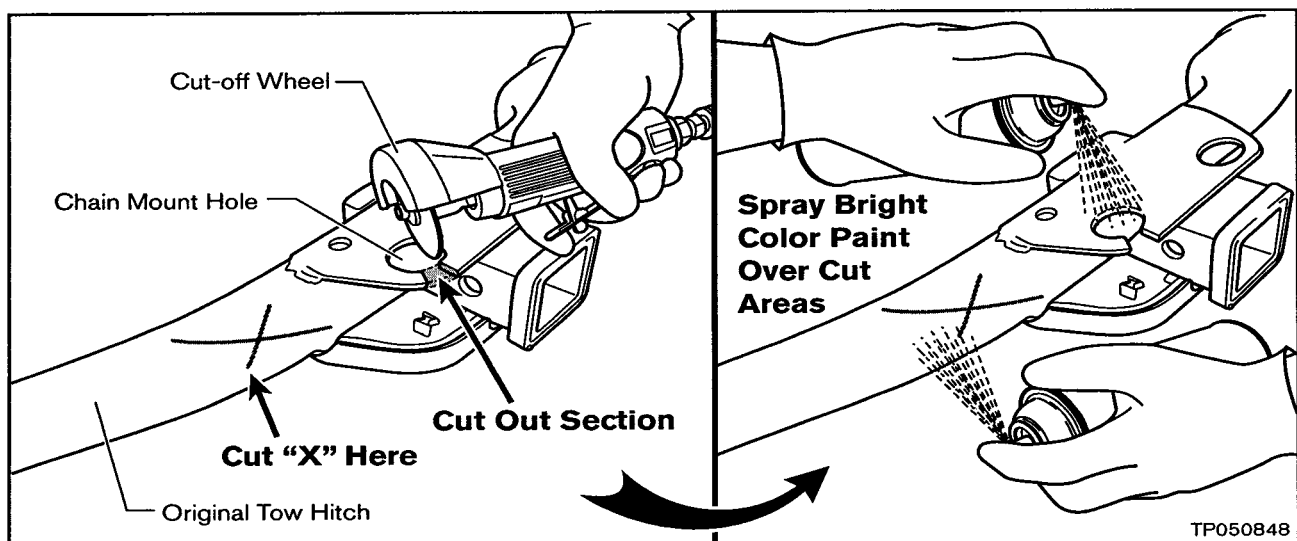

Figure 14
- Using a "cut off wheel" **and suitable hand and eye protection**, remove a section surrounding the Chain Mount Hole as shown in Figure 14. Then cut an "X" in the Tow Hitch surface (about 1/8" deep) as shown in Figure 14.
- Spray bright color paint (orange, red, or yellow) over the cut areas (see Figure 14).